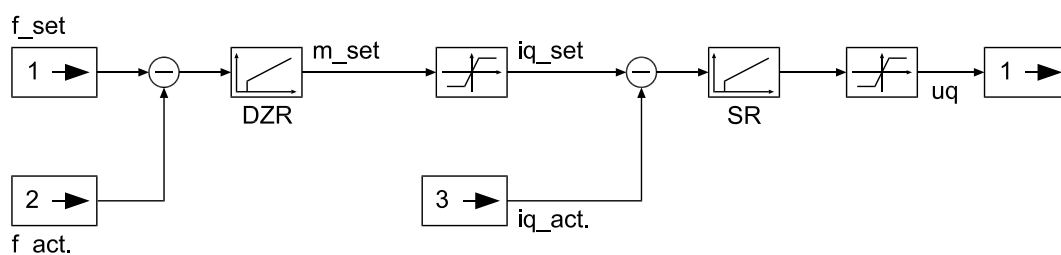

Figure 6.3
10. The dynamic behaviour of the drive depends very greatly on the setting of the controllers. Application “50 – **SLV**[®] rotational speed control” also features a speed controller (see Figure 6.3) besides the current controller. Whilst the current controller has already been adjusted using the Autotuning function, this must be done manually for the speed controller. The speed controller must be adapted to the load conditions using parameters **B1 – Speed controller gain** and **B2 – Reset time of speed controller**. Parameters B1 and B2 must be adapted step-by-step and alternately until the drive displays the required behaviour in relation to dynamic response and overshoot. In principle, optimization can also be performed for **SLV**[®] speed control using the same method already described in Section 6.7.3, “Controller Optimization”.